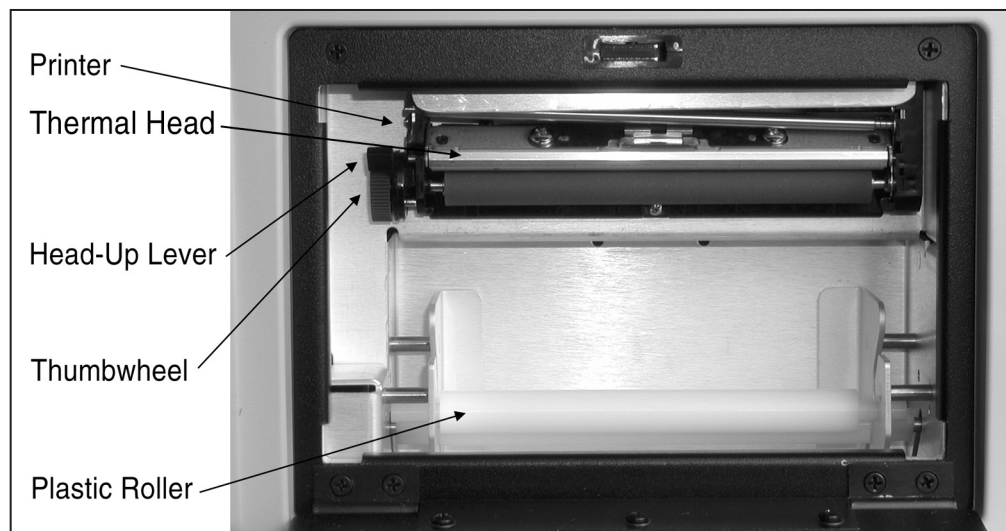

Figure 2.4.2A—The internal printer
*Please read the entire instructions before loading paper. Refer to Fig. 2.4.2A for printer features. (see next page)*